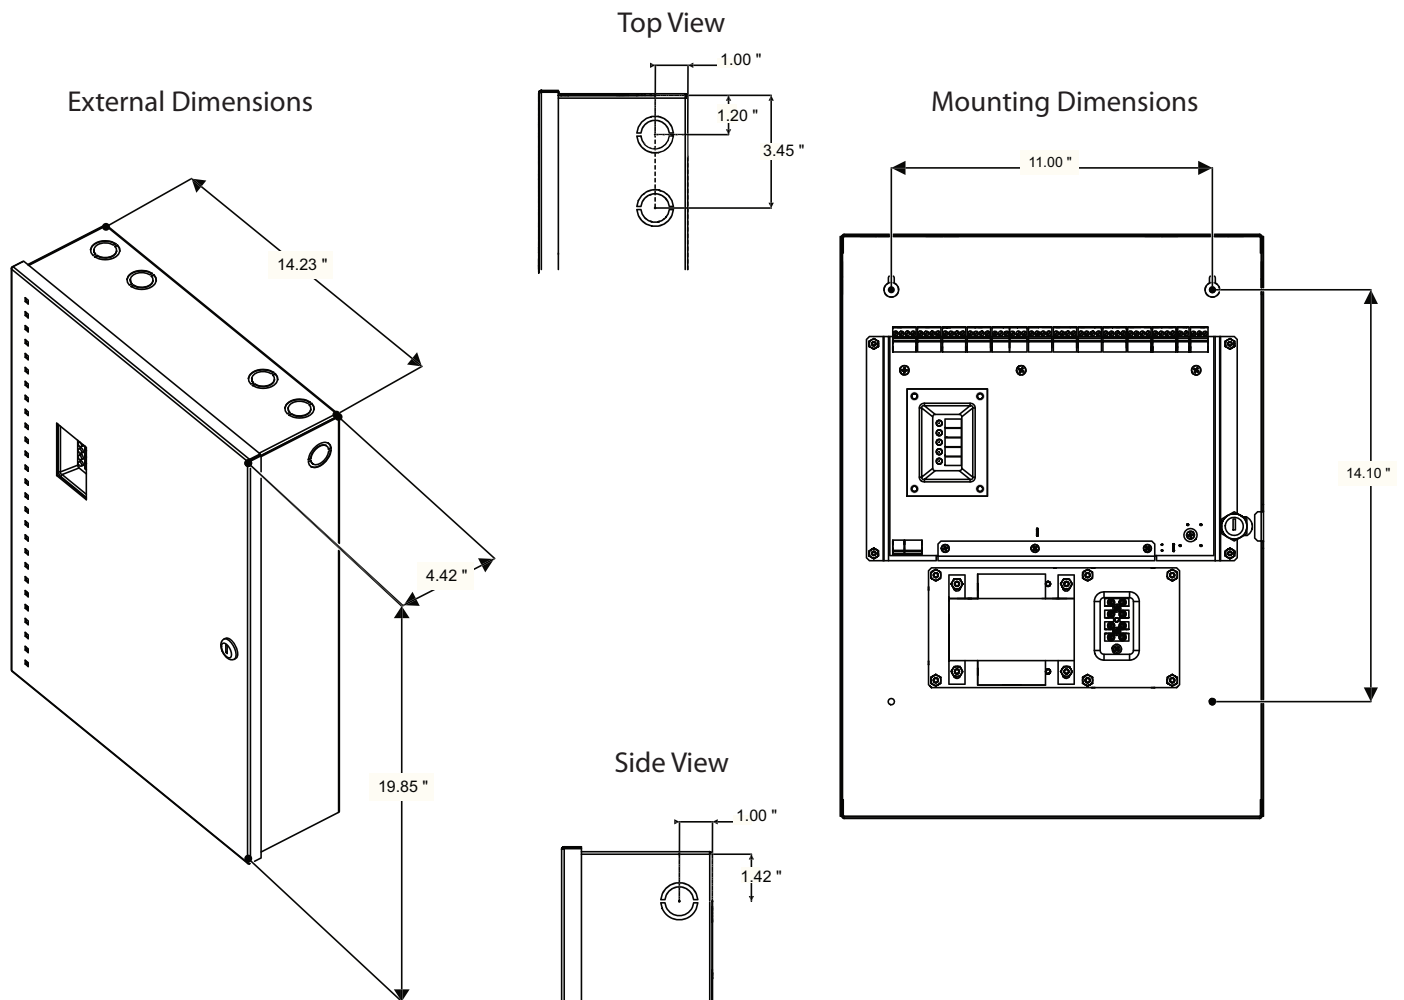
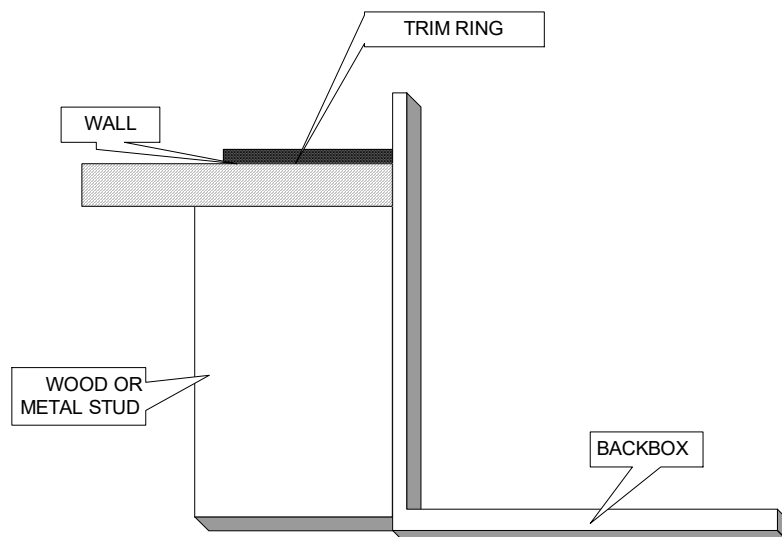

Figure 3 INX-10A Dimensions
Figure 5 Flush mounting the enclosure
The INX-10A can be surface mounted with four screws as shown in Figure 3 or flush mounted as shown in Figure 5 on page 19.
1. Using the INX-10A back plate as a template, mark the top of the two mounting hole locations 11" apart as shown in Figure 3.
Note: Figure 3 shows a cross-section of the semi-flush mounted backbox and the trim ring. Allow a minimum depth of 1" above the wall surface for proper door opening.